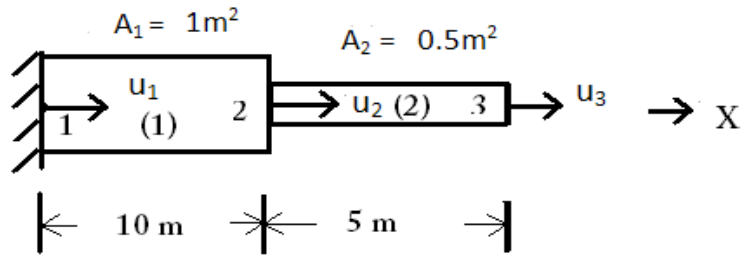

fig.7.
(b) Evaluate the eigen values and frequencies for the stepped bar shown in fig.7. (16)